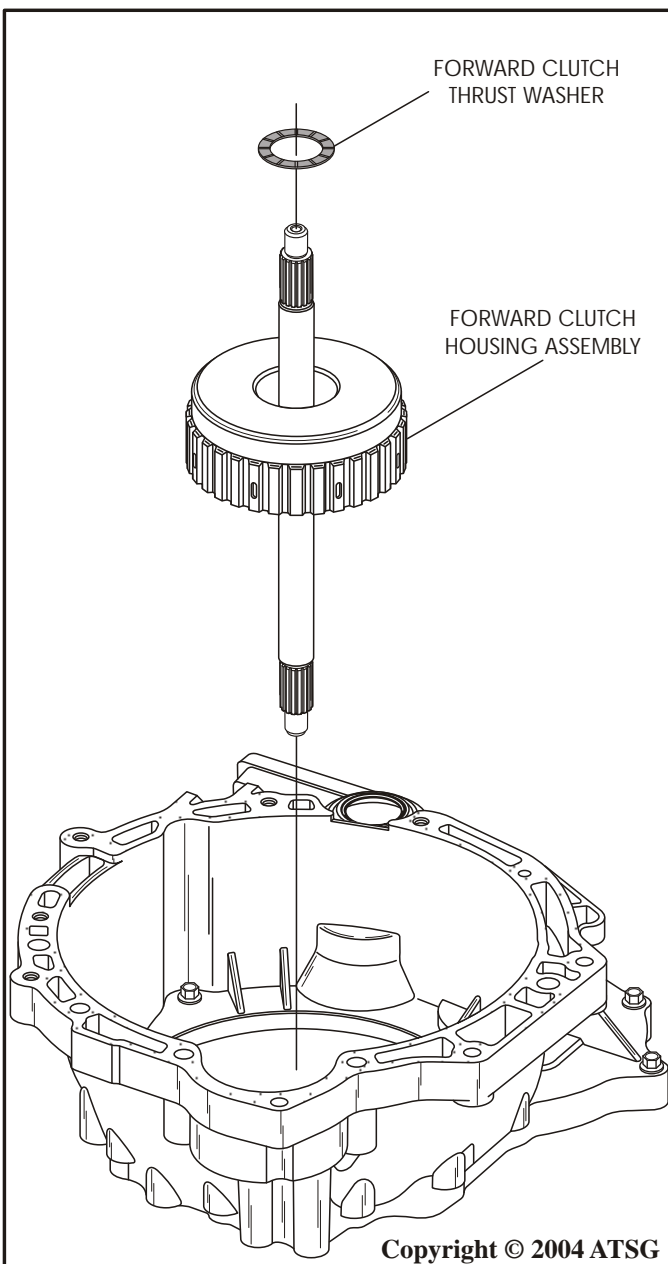

Figure 22
4. Remove the forward clutch housing assembly and the housing to oil pump thrust washer by pulling straight up, as shown in Figure 22.